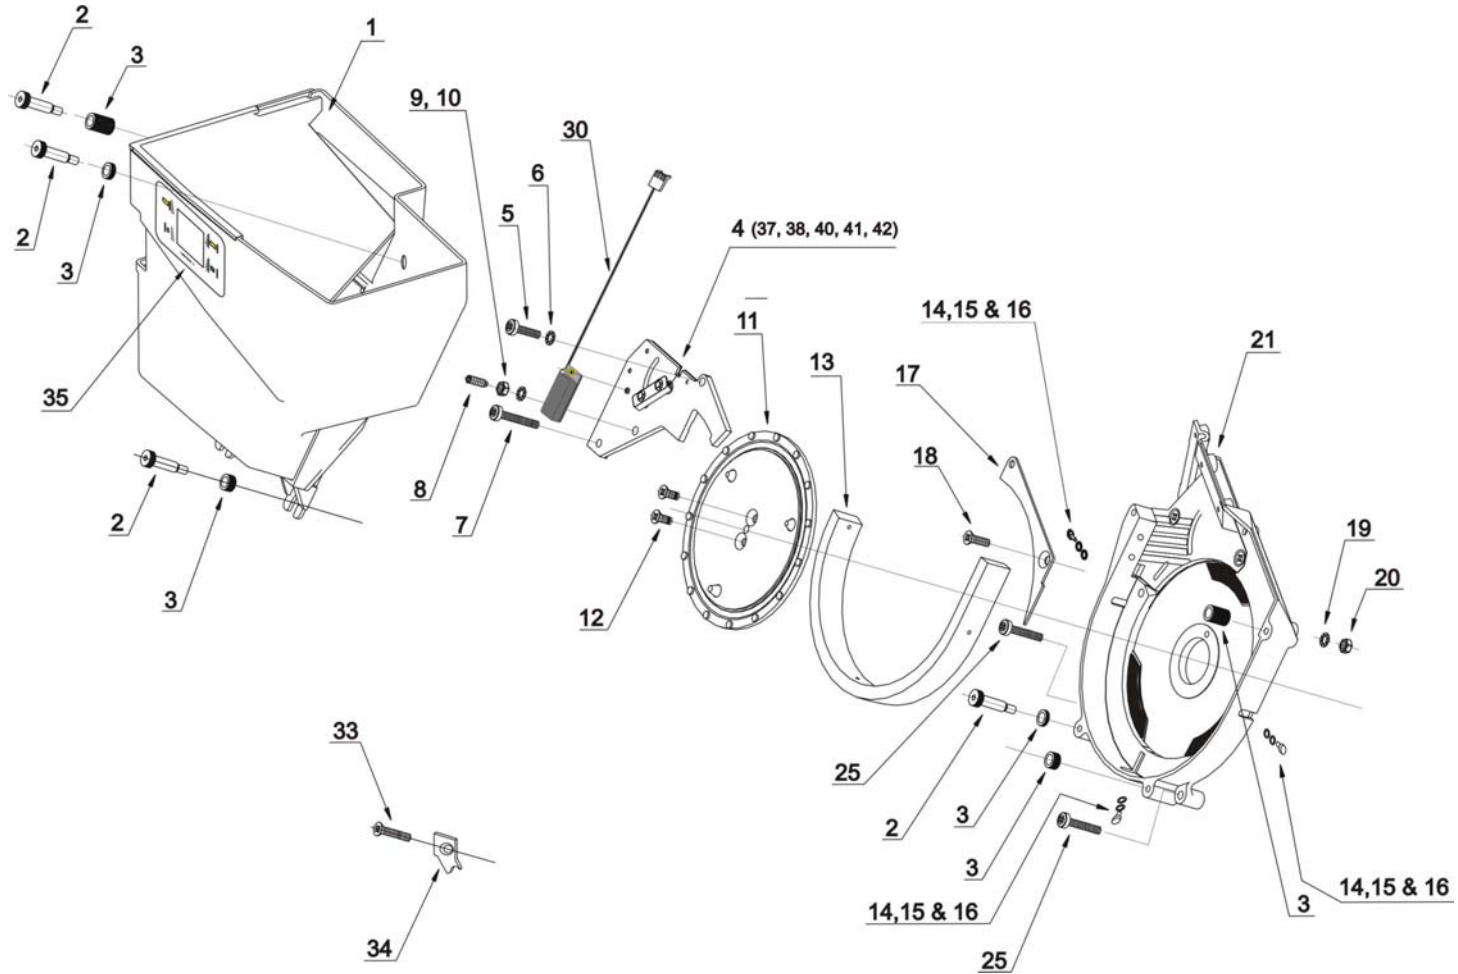
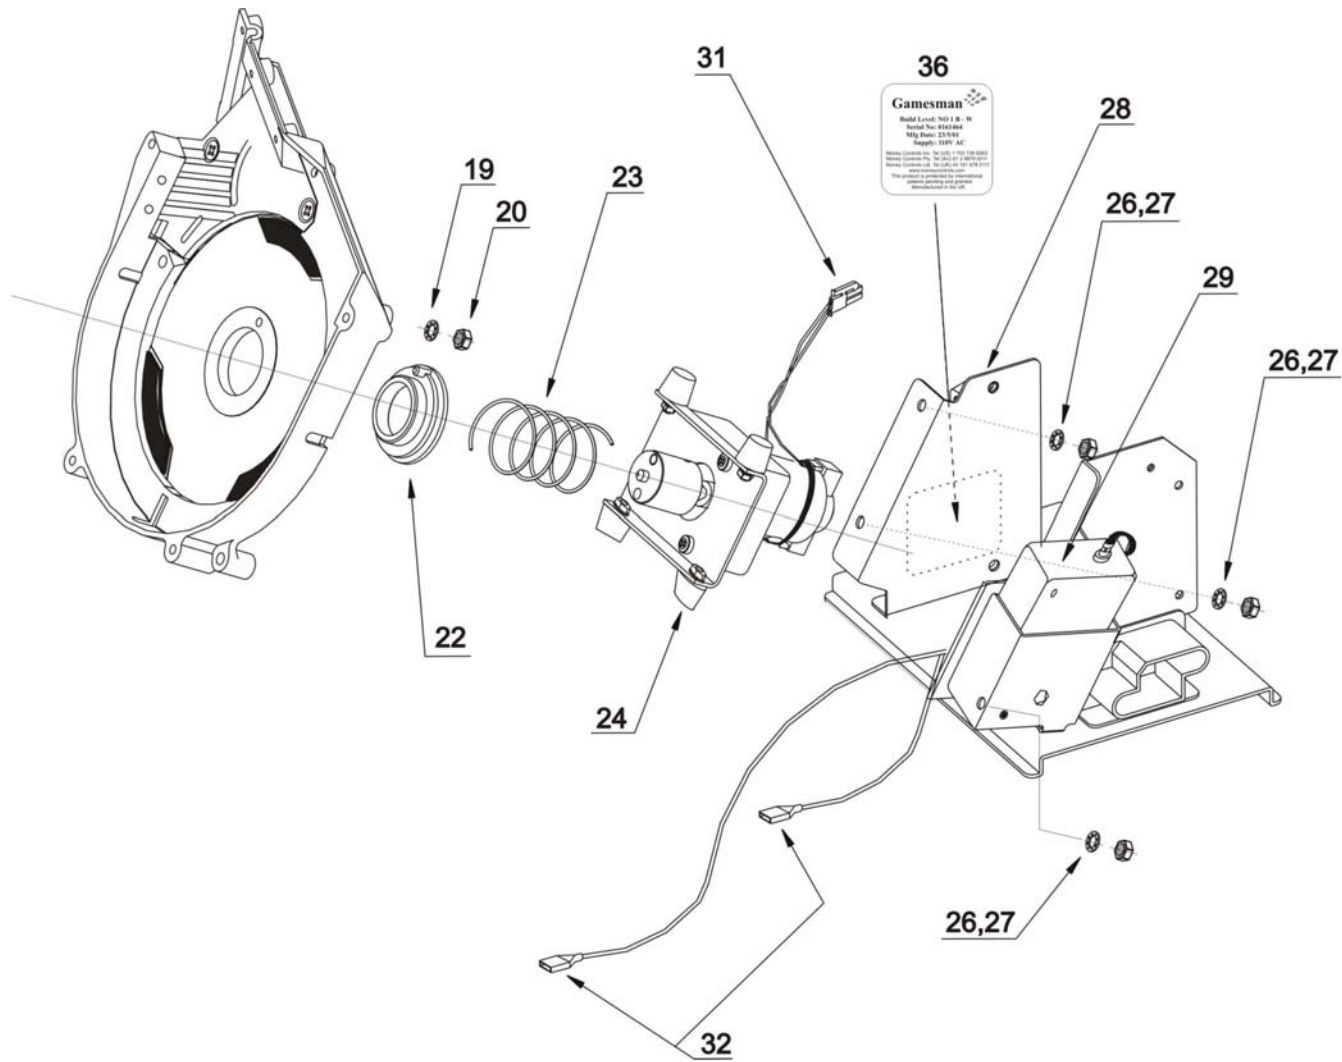

Figure 2: Exploded Drawing – Bowl and disk assembly
Figure 3: Exploded Drawing – Motor, frame and base assembly
➤ Fig 1a changed to Fig 2.
➤ Fig 1b changed to Fig 3.
➤ Fig 2 Exploded drawing copied from TSP008.
➤ Fig 3 Exploded drawing copied from TSP008.
➤ Amended Figure 2 (Bridge Plate numbering).
Refer to Figure 2 and Figure 3 Exploded Diagram Pages 11 and 12.
- 1) Disconnect the opto loom Item 30 - [Figure 2] from the control board.
- 2) Disconnect the motor loom Item 31 - [Figure 3].
- 3) Disconnect the level sense wires from the bowl Item 32 - [Figure 3].
- 4) Using the 4mm Allen Key, remove the two top M6 x 25 shoulder screws, Item 2 - [Figure 2] and coloured spacers, Item 3 - [Figure 2]. The bowl can then be lifted off the bottom two M6 x 25 shoulder screws.
- 5) Remove the bottom right hand M6 x 25 shoulder screw, Item 2 - [Figure 2] and coloured spacer/s, Item 3 - [Figure 2].
- 6) Remove the M6 x 20 Poz Pan head screw, Item 5 - [Figure 2]. Remove the M6 x 30 poz pan head screw, nut and shake-proof washer, Items 7 - [Figure 2 and 26 & 27 - Figure 3]. The bridge plate unit, Item 4 - [Figure 2], can now be removed.
- 7) Take hold of the motor to keep it in position. Then remove the two M6 x 16 poz countersunk Anu-lok screws, Item 12 - [Figure 2], from the centre of the disc unit, Item 11 - [Figure 2]. With the two screws removed the drive assembly, spring, rotary bearing and disc unit can be removed, Items 11 - [Figure 2 and 22, 23 & 24 - Figure 3].
- 8) Remove the M6 x 20 poz countersunk screw, nut and shake-proof washer, Items 18, 19 & 20 - [Figure 2], then remove the wiper spacer, Item 17 - [Figure 2].
- 9) ^(See note 1) Remove the two M6 x 30 poz pan screws, nuts and shake-proof washers, Items 25- [Figure 2 and 26 & 27 - Figure 3], holding the hopper housing to the frame unit. Remove the housing, Item 21 - [Figure 2], from the frame unit, Item 28 - [Figure 3].
- 10) ^(See note 1) Remove the three M4 poz pan screws, 4mm plain washer and the 4mm – shake-proof washer, Items 14, 15 & 16 - [Figure 2], holding the horseshoe, Item 13 - [Figure 2], to the housing, Item 21 - [Figure 2].
- 1) Place horseshoe, Item 13 - [Figure 2], in the housing, Item 21 - [Figure 2] and line up the holes in the housing with the 3 x M4 tapped holes in the horseshoe. Fix the horseshoe in place with the M4 screw, 4mm plain washer and the 4mm shake-proof washer, Items 14, 15 & 16 - [Figure 2]
- 2) Take the wiper spacer, Item 17 - [Figure 2], from the kit and with the M6 x 20 poz countersunk screw Item 18, 19 & 20 - [Figure 2] fit the wiper to the housing, Item 21 - [Figure 2]. At this stage leave the screw only hand tight so the bridge plate, Item 4 - [Figure 2], can be easily fitted.
- 3) Take the rotary bearing, spring and drive assembly previously removed, Items 22, 23 & 24 - [Figure 3] and locate the pin on the rotary bearing into the small hole in the housing. With the spring mounted on to the drive bush, locate the drive assembly into the rotary bearing.
- 4) Holding the drive assembly in place, place the disc unit, Item 11 - [Figure 2], from the kit onto the locating pip on the end of the drive bush. Using the two M6 x 16 poz countersunk Anu-lok screws, Item 12 - [Figure 2], from the kit, fix the disc to the drive bush.
- 5) Fit the housing unit, Item 21 - [Figure 2], to the frame unit, Item 28 - [Figure 3], with the 2 x M30 poz pan head screws, nuts and shake-proof washers, Items 25 - [Figure 2 and 26 & 27 - Figure 3].
- 6) Take the bridge plate unit, Item 4 - [Figure 2], from the kit. Position the bridge plate unit on the housing so that the two 6.2mm mounting holes line up with the two mounting holes in the housing. Fix the bridge plate unit to the housing using the M6 x 20 poz pan head screw, Item 5 - [Figure 2] and 6mm shake-proof washer, Item 6 - [Figure 2], in the top right hand hole.
In the bottom left hand fixing hole, ^(See Note 2) fit the M6 x 30 poz pan head screw, nut and washer Items 7 - [Figure 2 and 26 & 27 - Figure 3],
Note 2:- If converting to a build No 6, No 7 or No 8 then the M6 x 35 poz countersunk screw Item 34 - [Figure 2] and filler piece extension Item 33 - [Figure 2] is fitted at this point.
- 9) Fit the bottom right hand shoulder screw, Item 2 - [Figure 2] and colour spacer, Item 3 - [Figure 2], to the housing.
- 10) Fit Bowl Unit Item 1 - [Figure 2] and secure in place with the two shoulder screws, Item 2 - [Figure 2] and colour spacers, Item 3 - [Figure 2].
Please refer to Figure 2.
*Table 1: Exploded diagram parts and description.***Part List ref. TSP011** Figure 2 and Figure 3